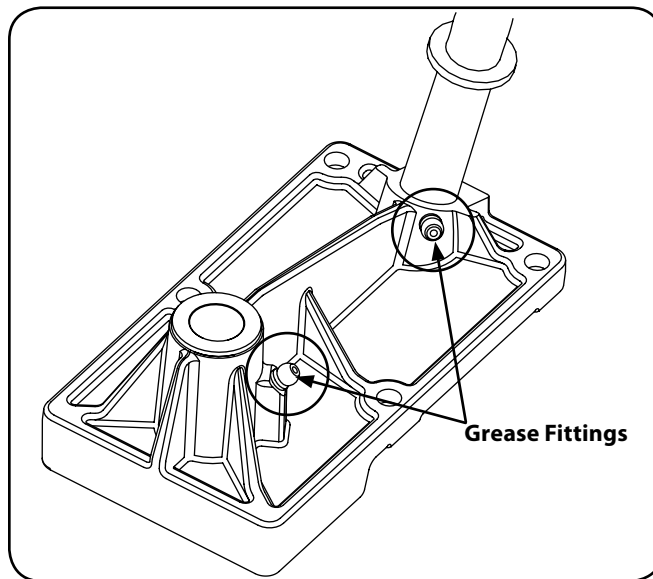

Figure 6-8
2. Locate the grease fitting for the steering housing and steering shaft under the battery. See Figure 6-8.